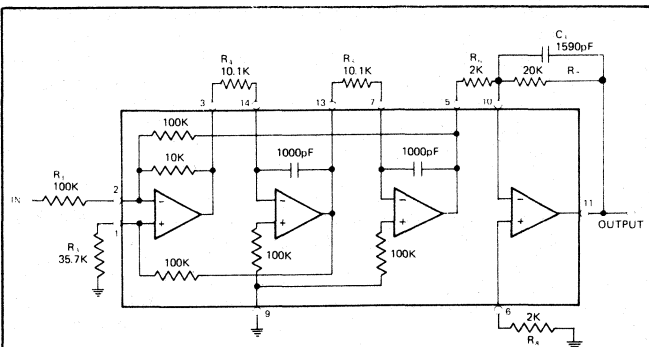

Figure 8. Three Pole Butterworth Low Pass Filter Example
6. This completes the 3-pole Butterworth filter which is shown in Figure 8.